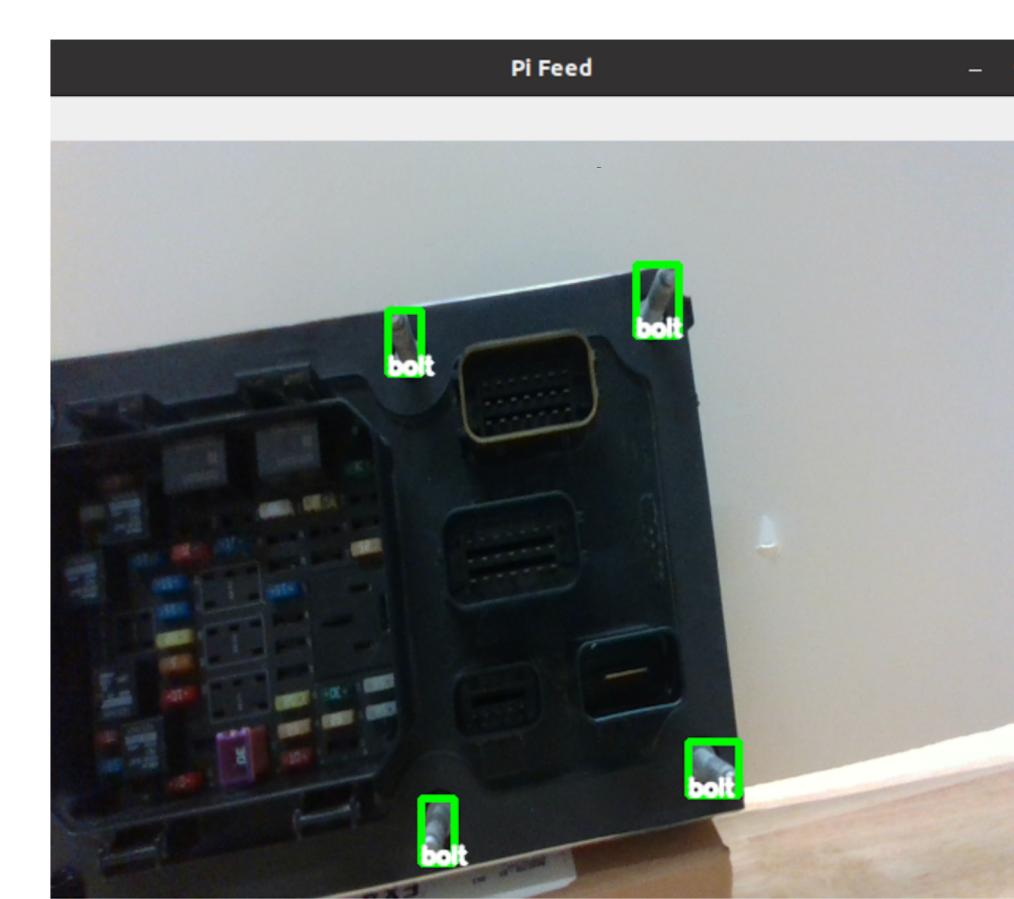

Fig. 7: Bolt Detection Model Test Visualization
- **Outcome:** The model successfully detects all 4 bolts of interest at close distance as shown in Fig. 7.